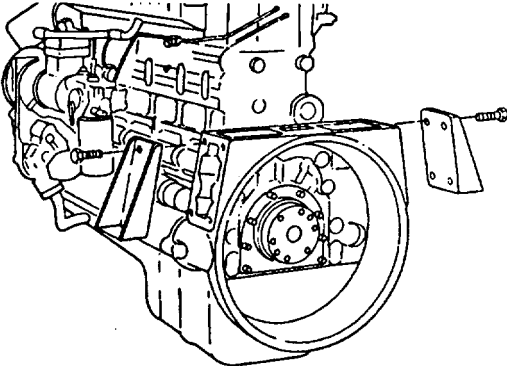

FIGURE 3-85. Removing Mounts.
- (9) Remove capscrews (1) and (2), install two 5/8-18 x 4 inch guide studs (FIGURE 3-85) .
- (10) Remove the remaining capscrews.